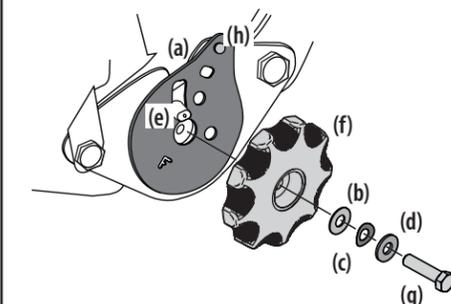

Figure 2-12
7. Remove the seat tilt knob assembly from the bag and install as shown in Figure 2-12.
**Note:** Be sure to orient the recliner plate (a) and install the plastic washer (b), spring washer (c) and metal washer (d) as shown in Figure 2-12. The plastic washer is on the inside.
8. Slide the recliner bearing plate (a) onto the recliner pin (e). Refer to Figure 2-12.